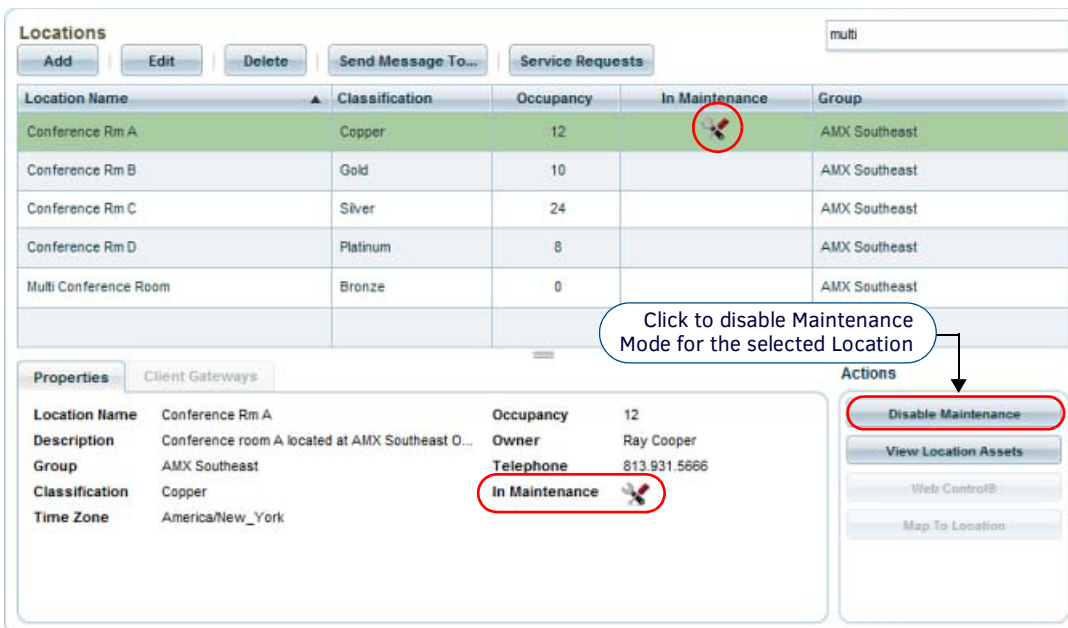

FIG. 207 Locations page - Maintenance Mode Enabled (for "AMX Conference Room A")
- Maintenance Mode is indicated in the Location window (in the *In Maintenance* column) and in the Properties window as an icon (FIG. 207):